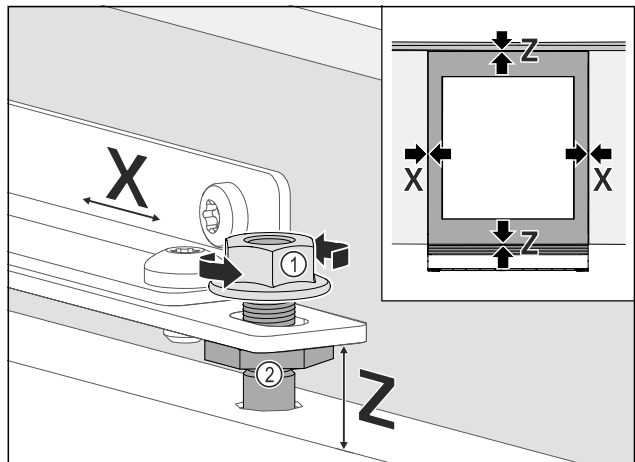

Fig. 102
- Align the unit door sideways: Loosen lock nut Fig. 102 (1), move unit door in X direction.
- Tighten the lock nuts Fig. 102 (1).
- Align the unit door in height Z and in the lateral inclination: Adjust the adjustment bolt Fig. 102 (2).